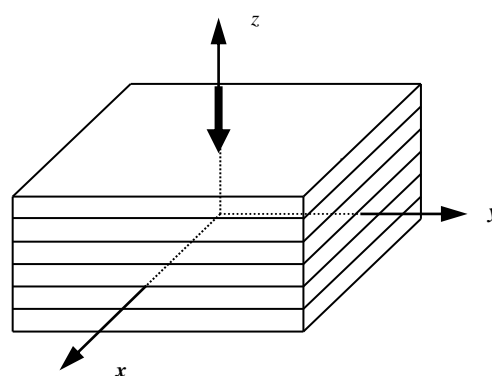

Figure 1. A plate not for meal
An example of an equation is shown in Eq. (1) above. Figure and table examples are given in Fig. 1 and Table 1 below.